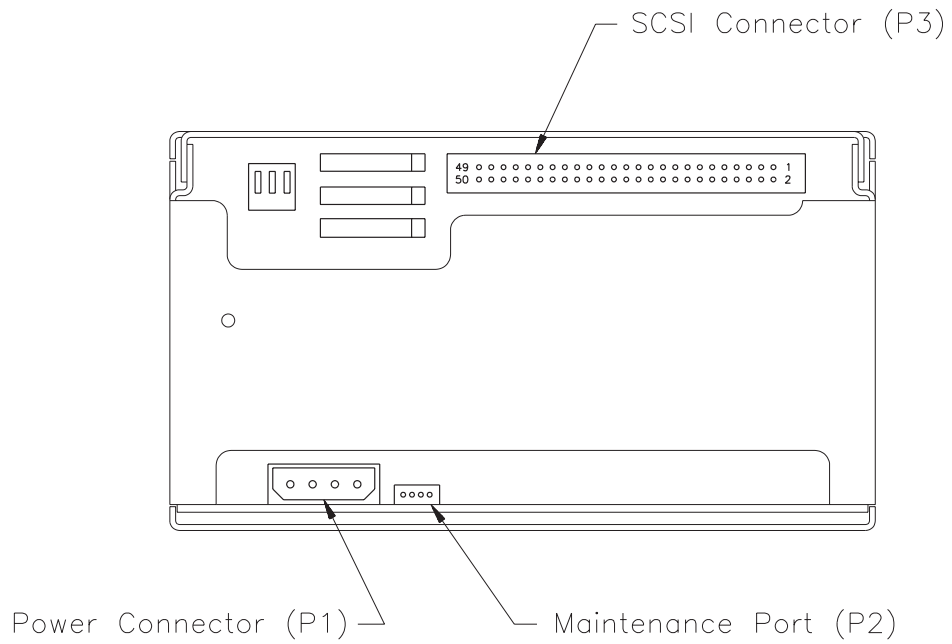
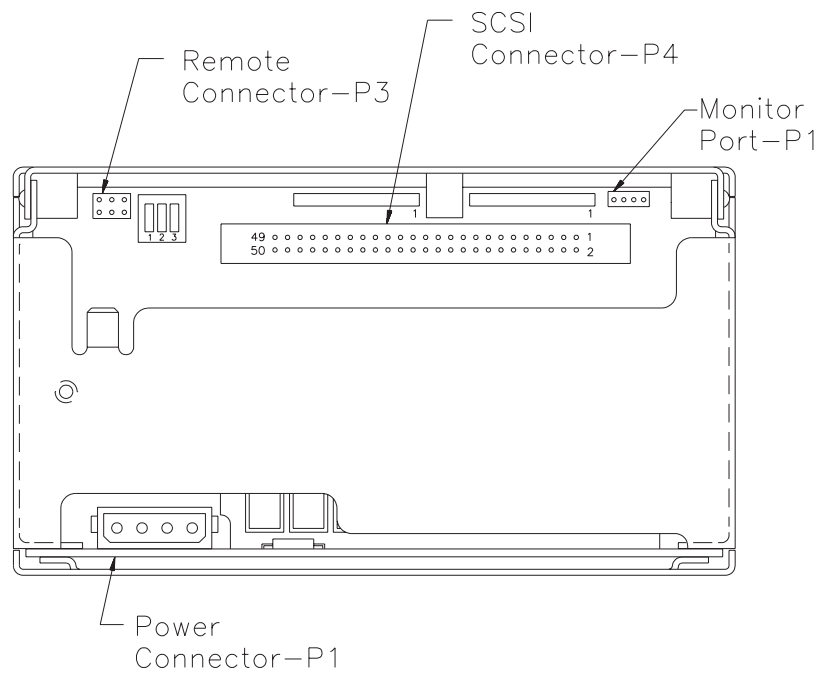

Figure 3-12 Connectors on the back of the EXB-8200/EXB-8200SX
Figure 3-13 Connectors on the back of the EXB-8500/EXB-8500c
5. Connect each of the EXB-10i's internal cables to the CTS as described below and on the next page. The locations of the connectors on the back of the EXB-8200 and EXB-8500 are shown in Figure 3-12 and Figure 3-13.